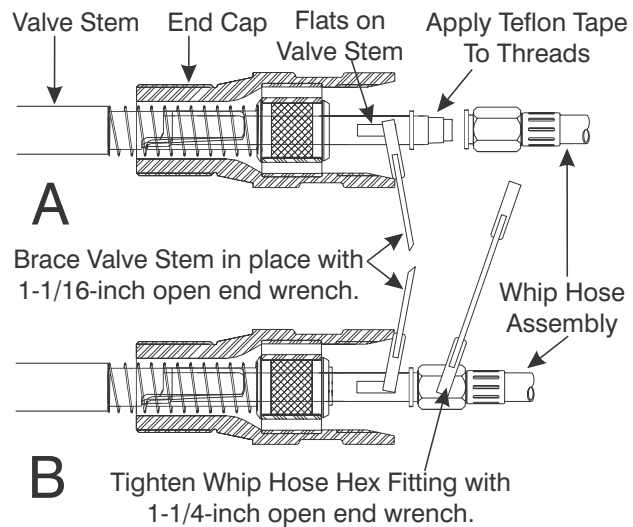

Figure 9-28. Hold Valve Stem in Place.
1. Collect on a clean flat work bench: the End Cap (8) with the Valve components assembled per section 9.11.1, the Whip Hose (10), and the Quick Disconnect Fitting (11) and Gasket.
2. By hand, press the Valve end of the Valve Stem (5) toward the End Cap until the flats on the stem are accessible as shown in Figure 9-28.
3. Fit an 11/16-inch open-end wrench across the exposed flats of the Valve Stem. Brace the wrench against the edge of the End Cap and pry the stem outward with enough force to prevent the Valve Stem from pulling back into the End Cap as shown in Figure 9-28.
5. Thread the larger hex fitting of the Whip Hose (10) onto the threads of the Valve Stem. Tighten the fitting finger tight. Refer to Figure 9-28.